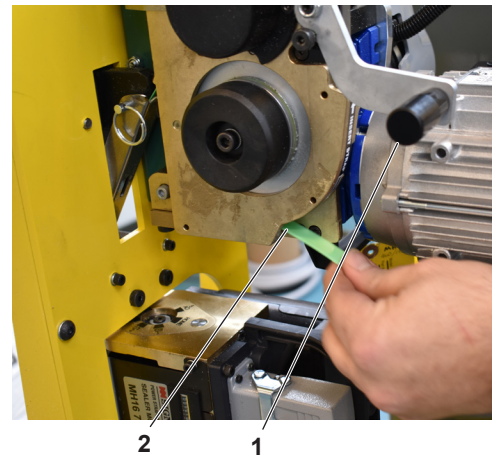

Figure 3-31: Pinch Lever
1. Pull the pinch lever (**Figure 3-31: 1**) down to open the tension Drive Wheels. Insert strap into tensioner with natural curl face-down.